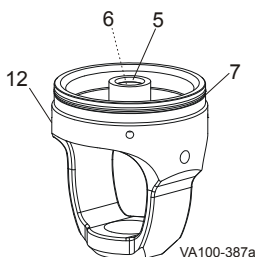

Figure 28: Remove Yoke O-ring and Guide Bearing
2. Remove the yoke (Figure 28, item 4). Inspect the lower stem o-ring (item 6) and cylinder o-ring seals (item 7).
4. Remove the PTFE guide bearing (Figure 28, item 5) by placing a screwdriver behind the bearing to pry it away from the wall of the yoke. Use needle-nose pliers to grip and remove the bearing.